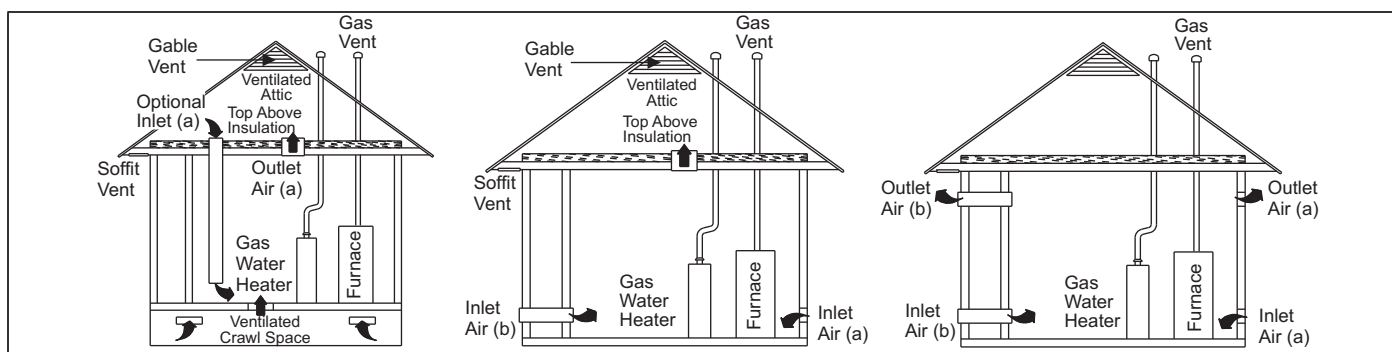

FIGURE 31: Ambient Combustion Air
3. **VENTILATED COMBUSTION AIR:** Combustion air is supplied through a PVC or ABS pipe that is connected to the PVC coupling attached to the burner box and is terminated in a ventilated attic or crawl space. The combustion air and the vent pipes are not terminated in the same atmospheric zone. Refer to Figure 31 for attic and crawl space termination. Only the combustion air intake may terminate in the attic. The vent must terminate outside.
Refer to Figure 31 for required attic termination for the combustion air intake pipe. For attic termination, use two 90 elbows with the open end in a downward position. Be sure to maintain 12" (30.5 cm) clearance above any insulation, flooring or other material.